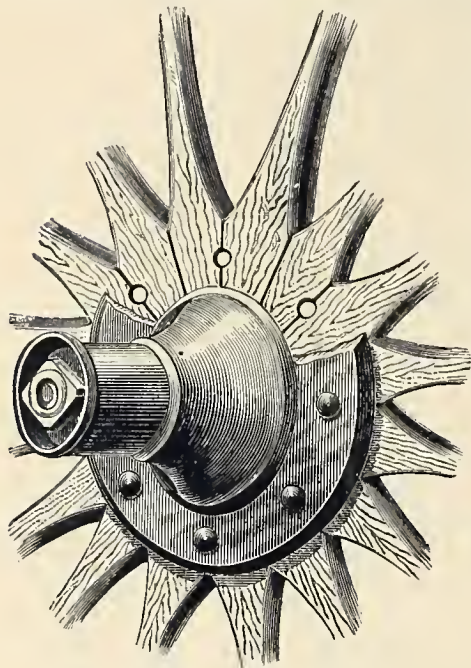

Fig. 550.—Iron Hub.
**Hubs.**—THE IRON HUB, represented by Fig. 550, is the pattern generally used in our wheels, although we also make a large number with Wood Hubs. This illus-